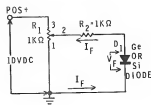
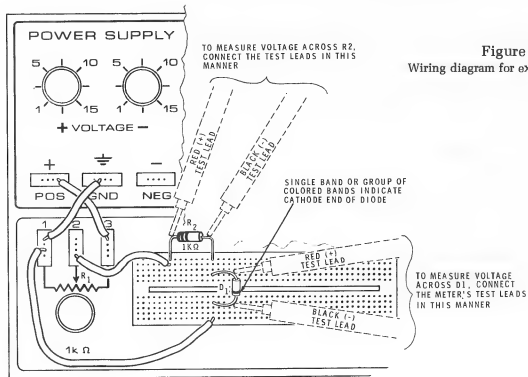

Figure 3-66
Figure 3-67
2. Construct the circuit shown in Figure 3-66 using the 1 k ohm potentiometer on your trainer, a 1 k ohm resistor, and the germanium diode (56-89). The pictorial in Figure 3-67 shows one way to wire the circuit. Feel free to use any physical wiring arrangement that suits you. Remember that the GND (ground) terminal on your Experimenter is common to both the positive (+) and negative (-) power supplies. In this experiment the POS and GND terminals are used just like the positive and negative leads of a battery.
- Adjust the diode's forward current to a value of 0.1 milliamperes. To do this, connect your voltmeter across R_2 as indicated in Figure 3-67. Then adjust R_1 until the meter indicates that the voltage across R_2 is equal to 0.1 volts. According to Ohm's law, the current through R_2 must now be equal to the voltage across R_2 (0.1 volts) divided by the resistance of R_2 (1000 ohms). This current must therefore be equal to 0.1 divided by 1000 or 0.0001 amperes which may also be expressed as 0.1 milliamperes. Since R_2 and D_1 are in series, the forward current (I_F) through D_1 must also be equal to 0.1 milliamperes at this time.
- Without disturbing the setting of R_1 , use your voltmeter to measure the voltage across D_1 . Connect the meter's test leads as indicated in Figure 3-67 and note the indicated voltage. Record this voltage in the table in Figure 3-68 immediately below the forward current (I_F) value of 0.1 milliamperes. Notice that appropriate spaces are provided for germanium (Ge) and silicon (Si) diodes. Your recorded value represents the forward bias voltage (V_F) across the diodes when I_F equals 0.1 milliamperes.
8. Turn off your Experimenter and reverse the connections of D_1 so that it is installed in the opposite direction. Also, replace R_2 with a 100 k resistor. Your circuit should still appear as shown in Figure 3-67 but the cathode end of D_1 should now be connected to R_2 instead of the negative side of the power supply. D_1 is now connected so that it will be reverse-biased when voltage is applied to it through R_2 .
9. Turn on your Experimenter and turn the voltage control of the positive (+) power supply to the full clockwise position. You will now use your voltmeter to measure the reverse bias voltage V_R across D_1 . Connect the meter's test leads across D_1 as shown in Figure 3-67 (since the diode is now reversed, the black or negative lead will now touch the diode's anode and the red or positive lead will touch the diode's cathode). Turn R_1 slowly clockwise until the meter indicates that the diode's reverse bias voltage is equal to 10 volts.
10. Without disturbing the setting of R_1 , use your voltmeter to measure the voltage across R_2 . Connect the meter's test leads as shown in Figure 3-67 and note the indicated voltage. Use this voltage indication to determine the amount of current flowing through R_2 .
11. Turn off your Experimenter and remove the germanium diode (D_1) from the circuit. Install the silicon diode in place of the germanium diode and replace the 100 k resistor with the 1 k resistor you started with. This will return the circuit to the condition shown in Figure 3-66. Check the wiring diagram in Figure 3-67 to be sure that your circuit is connected properly.